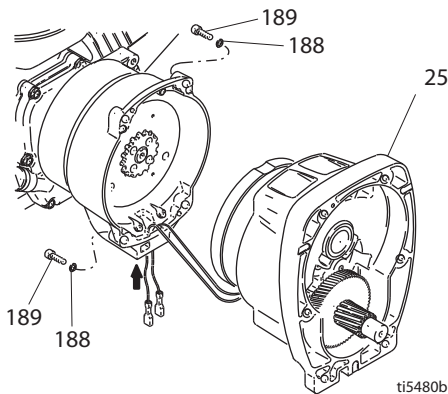
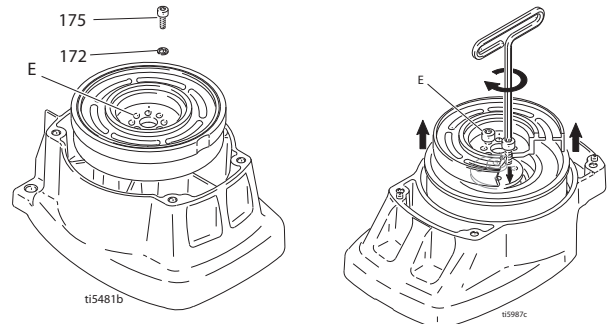

Fig. 4
Fig. 5
- 4 Fig. 4. Remove four screws (189) and lock-washers (188) and pinion assembly (25).
- 5 Fig. 5. Place pinion assembly (25) on bench with rotor side up.
- 4 Fig. 5. Place pinion assembly on bench with rotor side up.
- 5 Apply thread sealant to screws. Install four screws (170) and lock-washers (172). Alternately torque screws to 125 in-lb until rotor is secure. Use threaded holes to hold rotor.
- 6 Fig.4. Install pinion assembly (25) with five screws (189) and lock-washers (188).